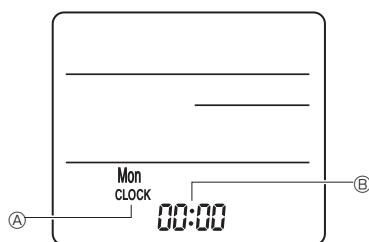

Fig. 6-8
3) Setting (Clock setting) (Fig. 6-8)
- ① Insert batteries or press the Ⓛ CLOCK button with something sharp. [CLOCK] Ⓛ and [:] Ⓛ blinks.
② Press the Ⓛ RESET Ⓛ button with something sharp.
③ Press the Ⓛ button to set the time.